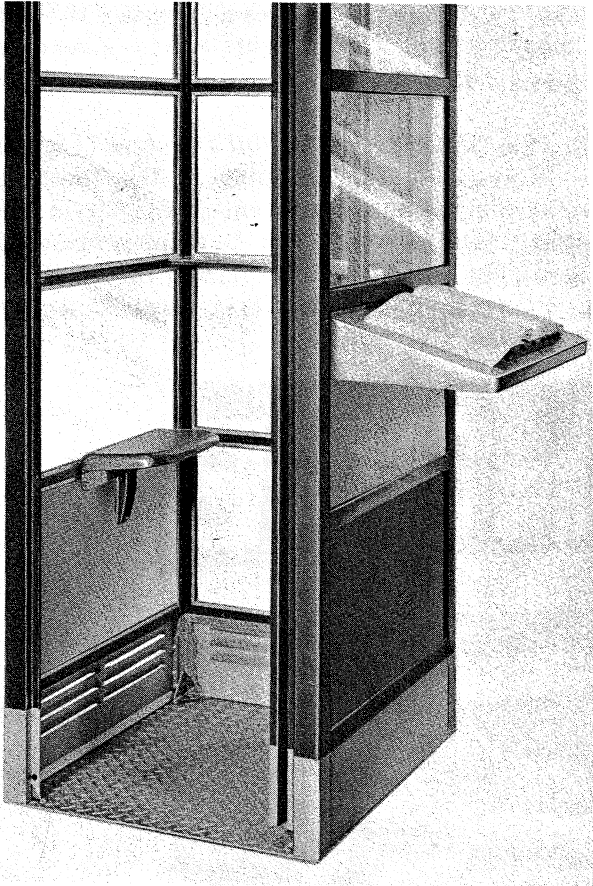

Fig. 3 — KS-16797, List 17 Directory Shelf Installed
4.03 A KS-16797, *List 17 directory shelf*, Fig. 3, for indoor booths only, is designed to accommodate KS-6472 and KS-6538 directory fasteners. The rack is mounted externally on a list 20 (for list 1 booth) or list 120 (for list 6 booth) anodized aluminum mounting plate.
5. HIGH POSITION SEAT (FIG. 3)